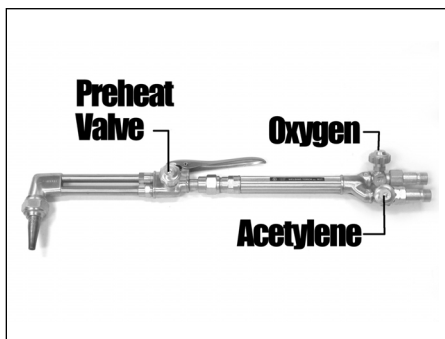

Figure 10 - Torch Handle
2. Close both torch handle valves. If using the cutting attachment, open the oxygen torch handle valve completely and close the preheat valve on the cutting attachment (see Figure 10).
4. Open the torch oxygen valve and preheat valve, depress the cutting lever if used and adjust regulator to proper outlet pressure for welding application (see Table 1). Close torch or preheat valve after purging (see Figure 10).